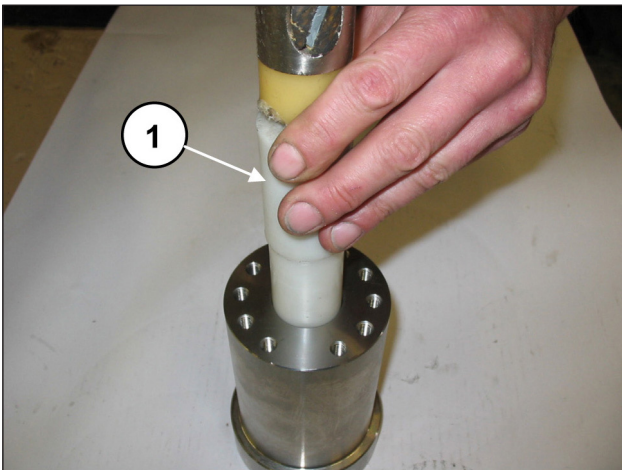
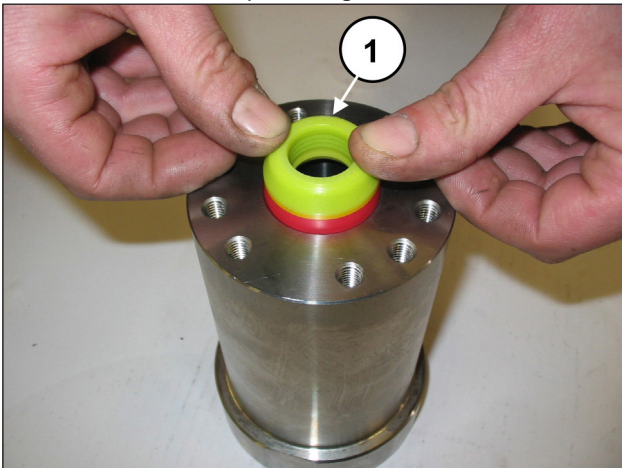
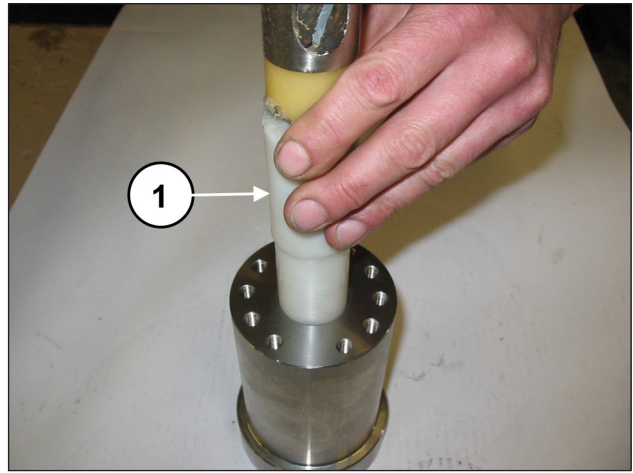

Fig. 117
Fig. 118
Fig. 119
For the correct axial positioning of the bush, use the special tool (code 27921100 for SM14, code 27921200 for SM16, code 27921300 for SM18, code 27911200 for SM20, code 27911400 for SM22, code 27911500 for SM24) (pos. ①, Fig. 117 and Fig. 118).
Insert the H.P. pack (high pressure) (pos. ①, Fig. 118); considering the slight interference between the seal and the liner, to avoid damage we advise using the tool (code 27673200 for SM14, SM16 and SM18, code 27673300 for SM20, for SM22 and for SM24) (pos. ①, Fig. 119).